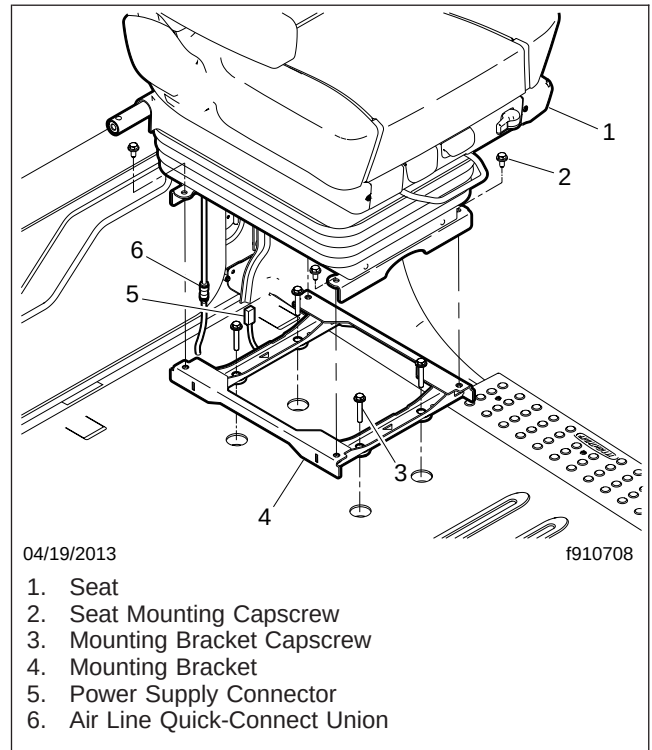

Fig. 1, Seat Installation
1. With the vehicle tires chocked, position the seat on the mounting bracket. Attach the seat to the mounting bracket with four capscrews. See Fig. 1. Tighten the capscrews 11 to 13 lbf-ft (15 to 18 N·m).